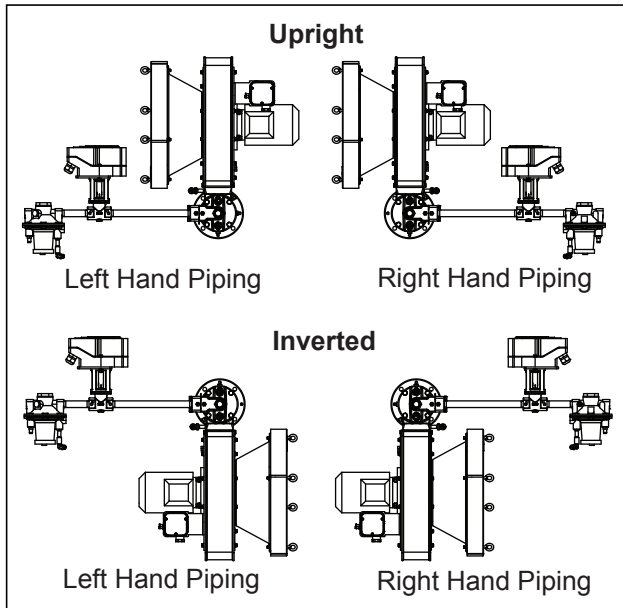

Figure 3.1 Burner Configuration
- **Fuel Type:** Variation in calorific value, specific gravity and WOBBE index will affect burner performance. If any of these parameters change more than 5% from Figure 3.1 contact Eclipse to check the suitability of the fuel. Performance data, dimensions and specifications are given for each ThermAir in Datasheets 114-1 through 114-9.